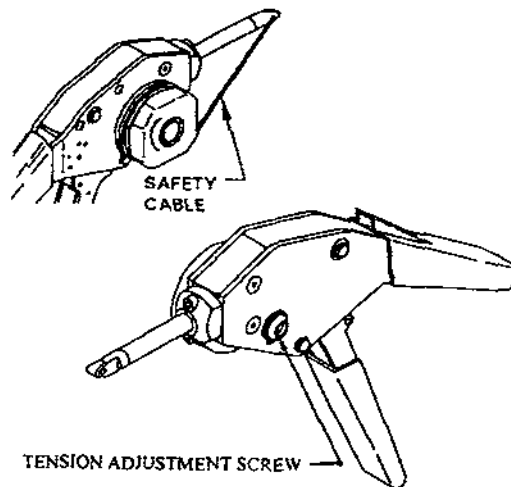

Figure 7-24. Adjustable Tension Safety Cable Tool
b. Adjustable Tension Tool (Figure 7-24.) Thread the safety cable through the fastener, ferrule, and tool nose in the same way as with other models. Wrap the cable one full revolution (clockwise) around the tension wheel, and with slight pressure applied by pulling the cable, secure the cable into the slot. Rotate the tension knob until several clicks are heard and felt. If additional tension is required, adjustment can be made with the tension adjuster on the opposite side of the tool.